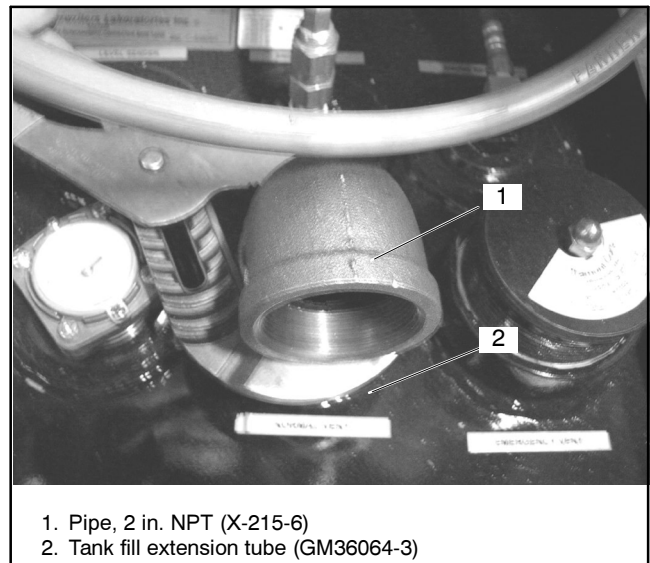

Figure 6 Secure Elbow to Overspill Vent Pipe
- 2.1.5 Attach 2 in. NPT elbow X-215-6 to top of tank fill extension tube GM36064-3 and tighten securely. See Figure 6.